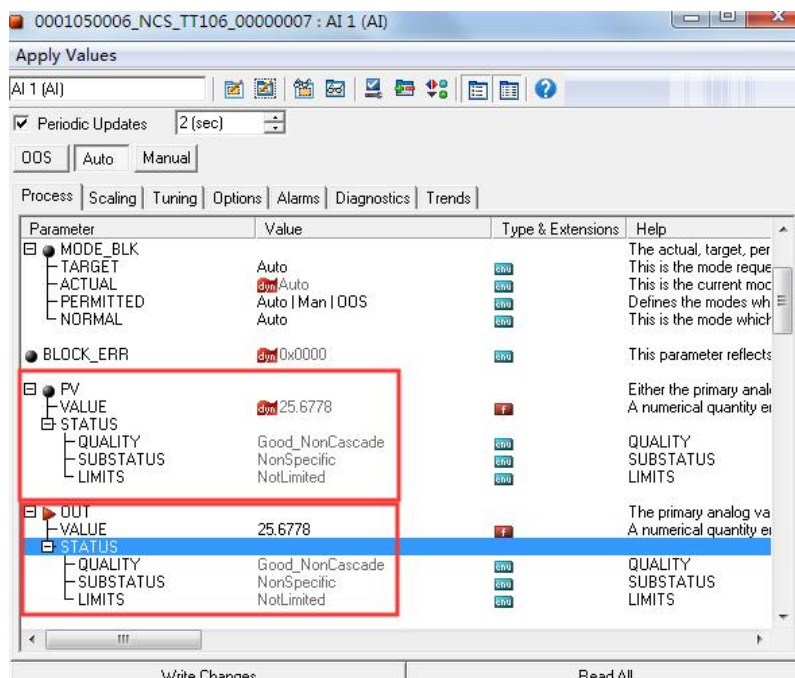

Figure 3.16 AI1 function block acquisition value and status
(4) After completing the configuration of the AI function block, modify the TARGET in the MODE\_BLK parameter of the AI1 function block to Auto, and the ACTUAL parameter in the MODE\_BLK parameter should be Auto, otherwise modify the configuration according to the prompt of the BLOCK parameter. In the PV and OUT parameters, you can see that the temperature value of the AI1 function block is 25.6778 and the status is Good\_NonCascade. At this time, the AI1 function block is normal, as shown in Figure 3.16 below.